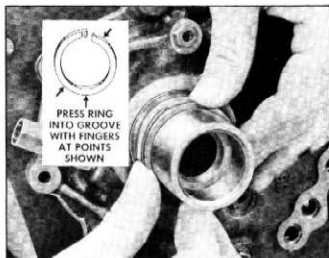

Fig. 107—Installing Oil Seal Rings
7. Install two clutch drum oil seal rings (fig. 107).